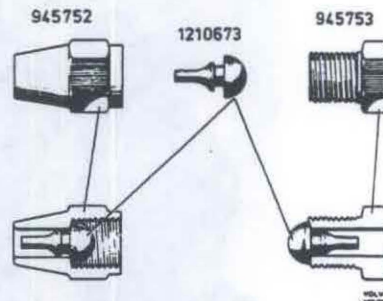

Fig. 46-76. Sealing nipples
- Remove the brake lines from the brake hoses. Plug the hoses with sealing nipples, see Fig. 46-76 for a suitable nipple, Volvo part nos. 945752 + 1210673. Remove the bracket with hoses from the wheel carrier housing.